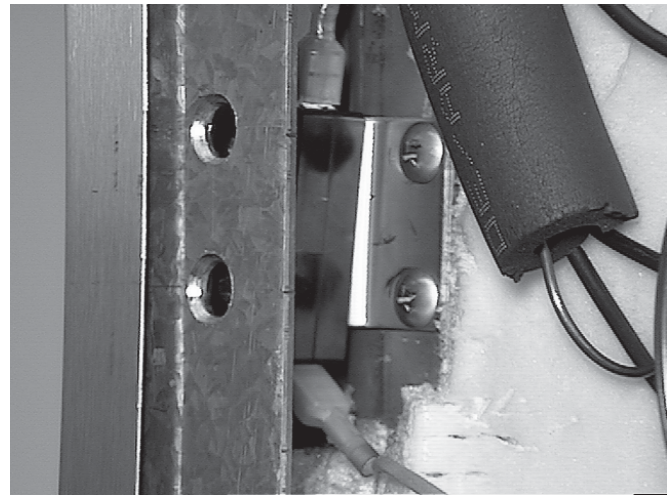

Figure 35. Safety Switch
2. Remove the two retaining screws from the switch bracket and lift the assembly out. Figure 35.